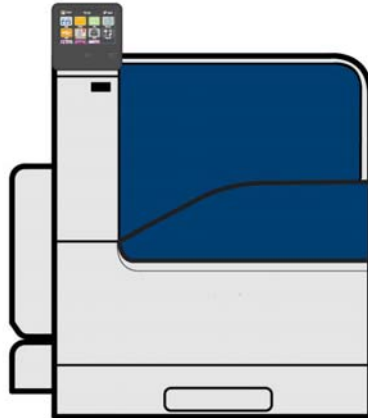

Figure 1 Desktop machine
- Xerox® VersaLink® C7000 desktop, Figure 1.